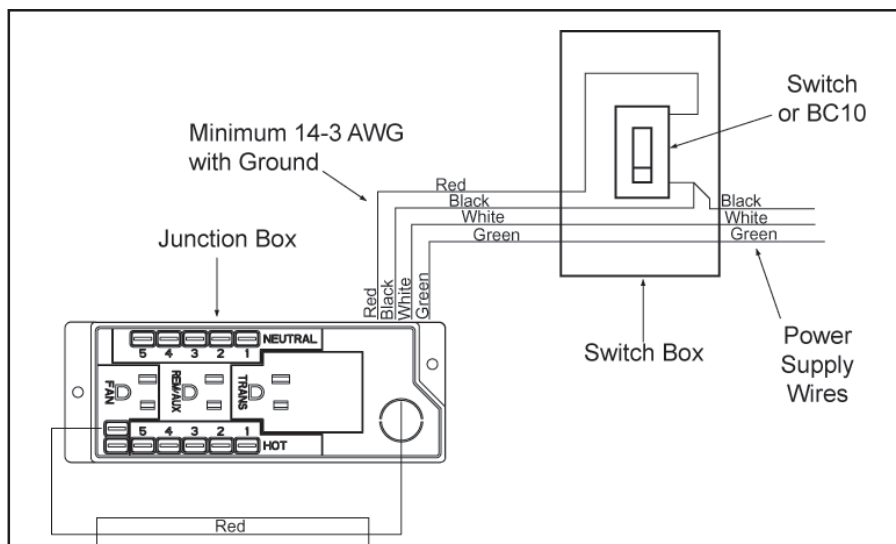

Figure 15 - Wiring
- c. If the box is being wired to a wall mounted switch or BC10 for use with a fan (See Figure 15):